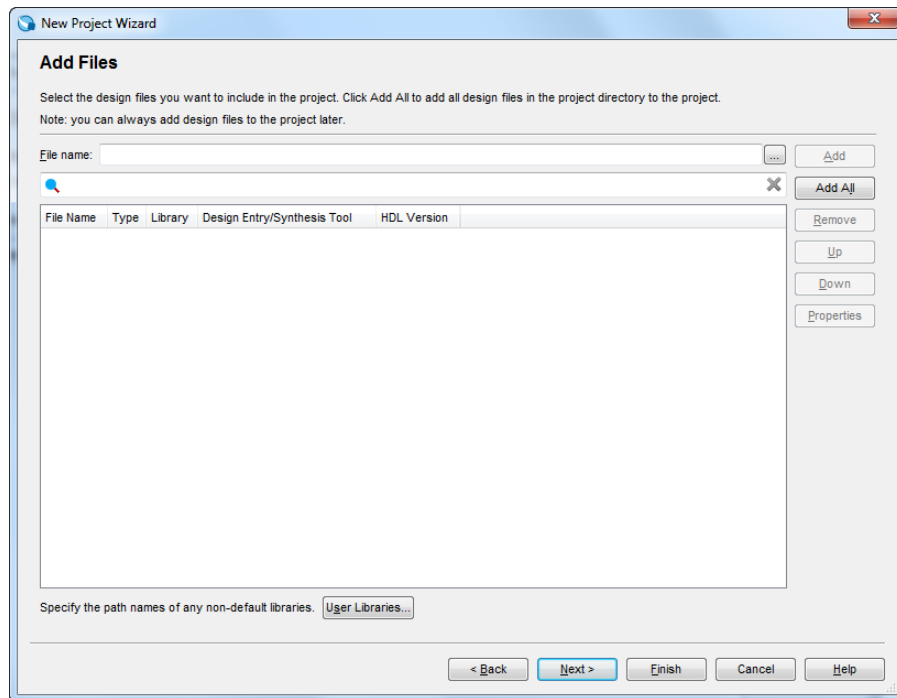

Figure 7. The wizard can include user-specified design files.
3. The Project Type window, shown in Figure 6, allows you to choose from the Empty project and the Project template options. For this tutorial, choose Empty project as we will be creating a project from scratch, and press Next which leads to the window in Figure 7.